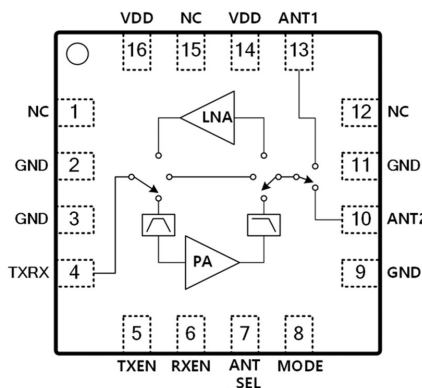

Figure 1. 8TR8223 Functional Block Diagram
The 8TR8223 combines a transmit power amplifier (PA), receive low noise amplifier (LNA), a single pole, double throw (SPDT) transmit / receive (T/R) switch (Figure 1) in a 3mm x 3mm x 0.45mm 16-pin QFN package. It also comes integrated with filter networks and input / output matching circuitry. The device delivers up to +22dBm saturated output power at a supply voltage of 3.3V.